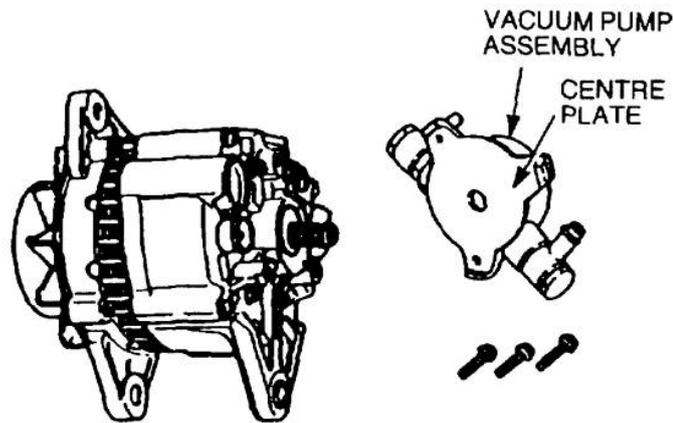

Figure 309 Removal of the Vacuum Pump
- b. Remove the three bolts securing the vacuum pump to the alternator. Securing the centre plate, remove the vacuum pump from the rotor shaft (Figure 309).